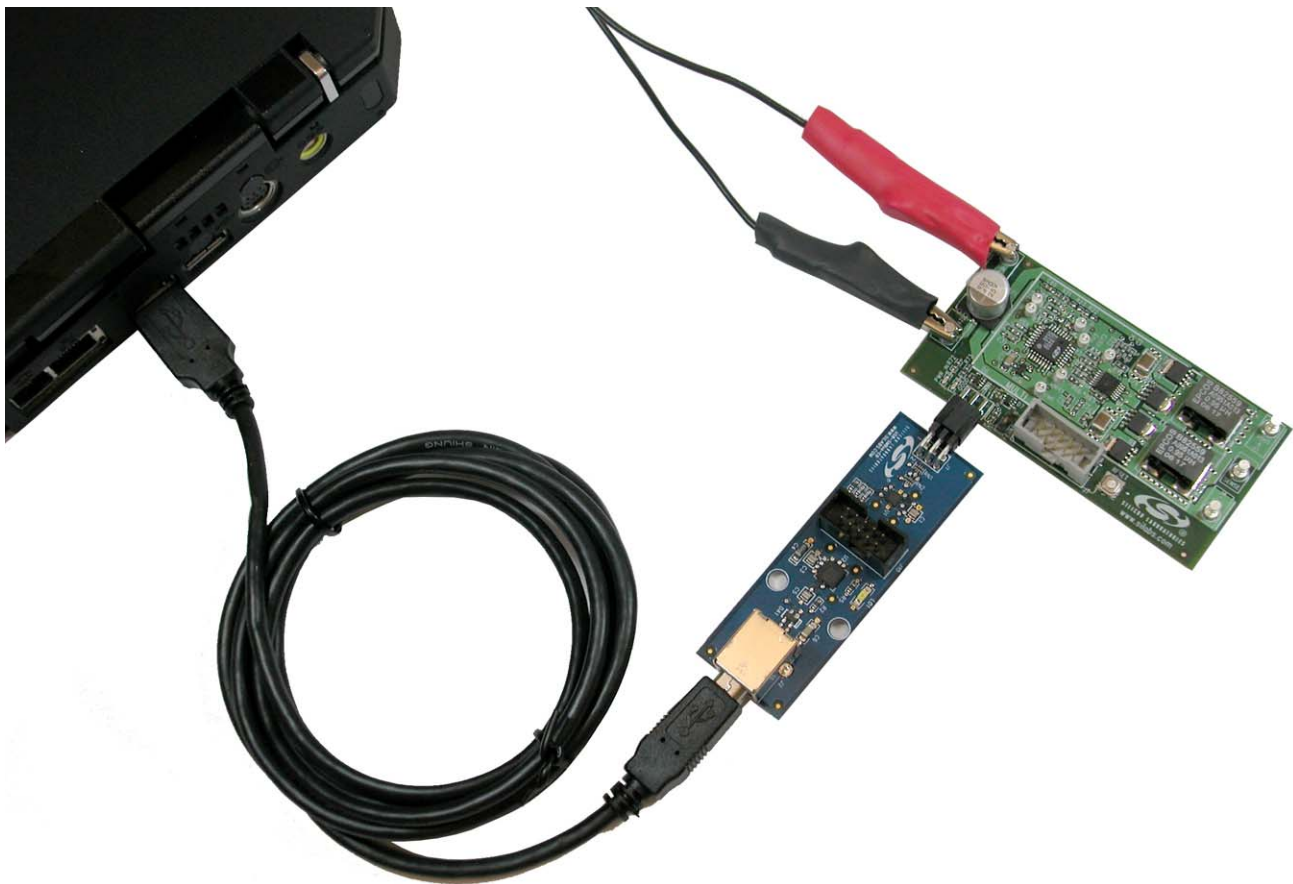

Figure 4. USB to SMBus Bridge Board Connection (Load not Connected)
6. Connect the Si8250 Multi-Phase POL Target Board to the USB to SMBus Bridge Board as shown in Figure 4.